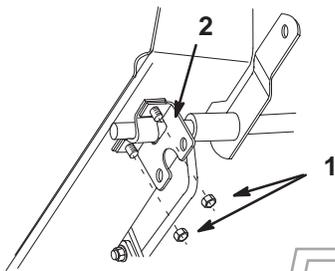

Figure 8
5. Remove the nuts from the right side footrest cross-shaft (Fig. 8). Do not remove the cross-shaft bracket.
6. Install the crank handle bracket under the right side footrest with a 90 degree bend toward the inside (Fig. 8), securing it with the previously removed locknuts.